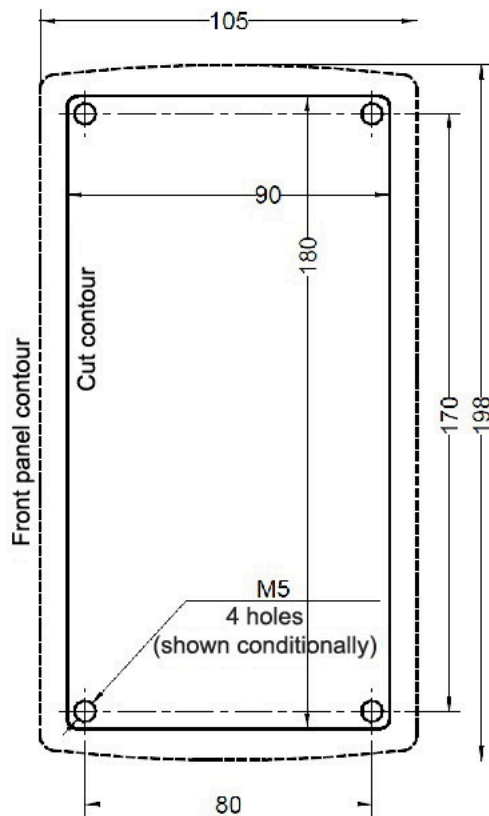

Fig. 1 Markup for installation of the outdoor panel
2. Prepare a niche for installing outdoor panel (see the layout in Figure 1).